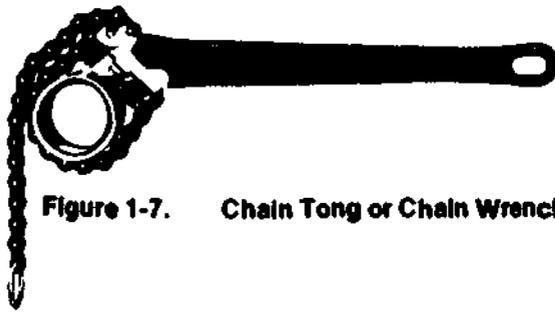

Figure 1-7. Chain Tong or Chain Wrench
h) A typical chain tong, or chain wrench, is shown in Figure 1-7. Chain tongs of this type come in different styles and lengths. Many users prefer this type for holding or turning pipes. It is used only on rough pipe and never on finishing material because, as already stated, the teeth in the jaws leave marks on the pipe.